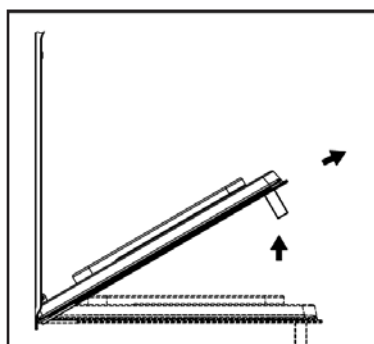

Fig 2
2. Take out inner glass slowly. [Fig.2]